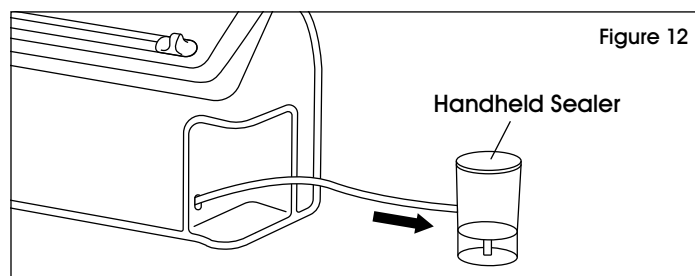

Figure 12
3. Pull out the built-in retractable handheld sealer to desired length. (See Figure 12)